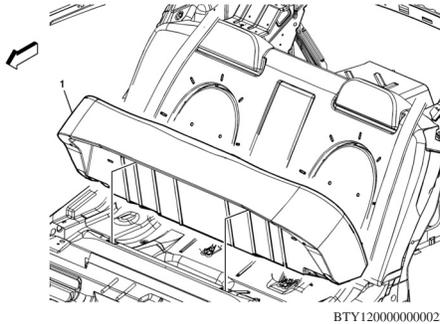

Fig. 1 Rear seat removal
3. Lift up on front of seat cushion and pull up and out remove, **Fig. 1**.